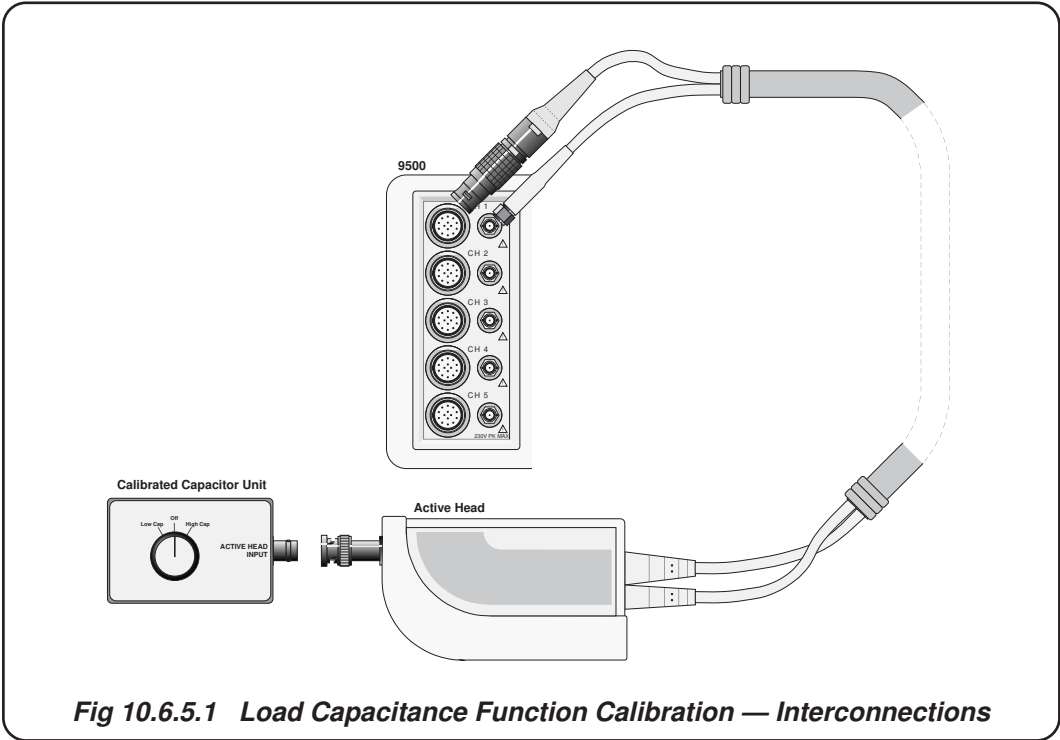

Fig 10.6.5.1 Load Capacitance Function Calibration — Interconnections
- 1. Make connections as shown in *figure 10.6.5.1*.